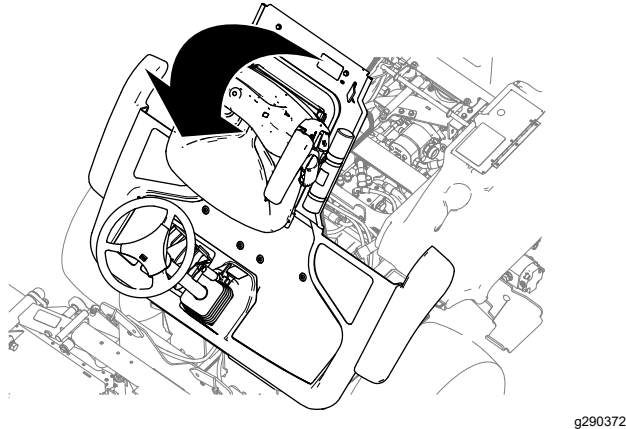

Figure 41
2. Raise the platform (Figure 41).